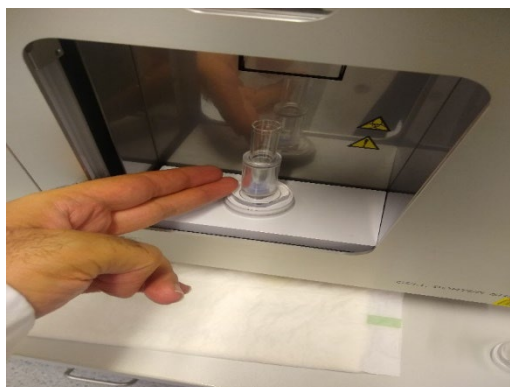

Figure 30
4. Put the whole thing in the sample area (Figure 30).